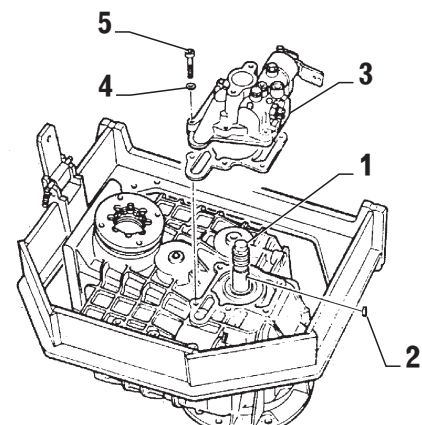

FIG. 6-1
New piston rings (item 1, Fig. 6-1) have already been assembled according to section 1.6.
- a) Insert key (item 2, Fig. 6-1) into groove of shaft
- b) Place new gasket (item 3, Fig. 6-1) onto control block
- c) Key slot in pump-drive wheel should be aligned Fig. 6-1
- e) Push lock washers (item 4, Fig. 6-1) on socket head bolts (item 5, Fig. 6-1) and provide screw threads each with a drop of Loctite 242 or 262